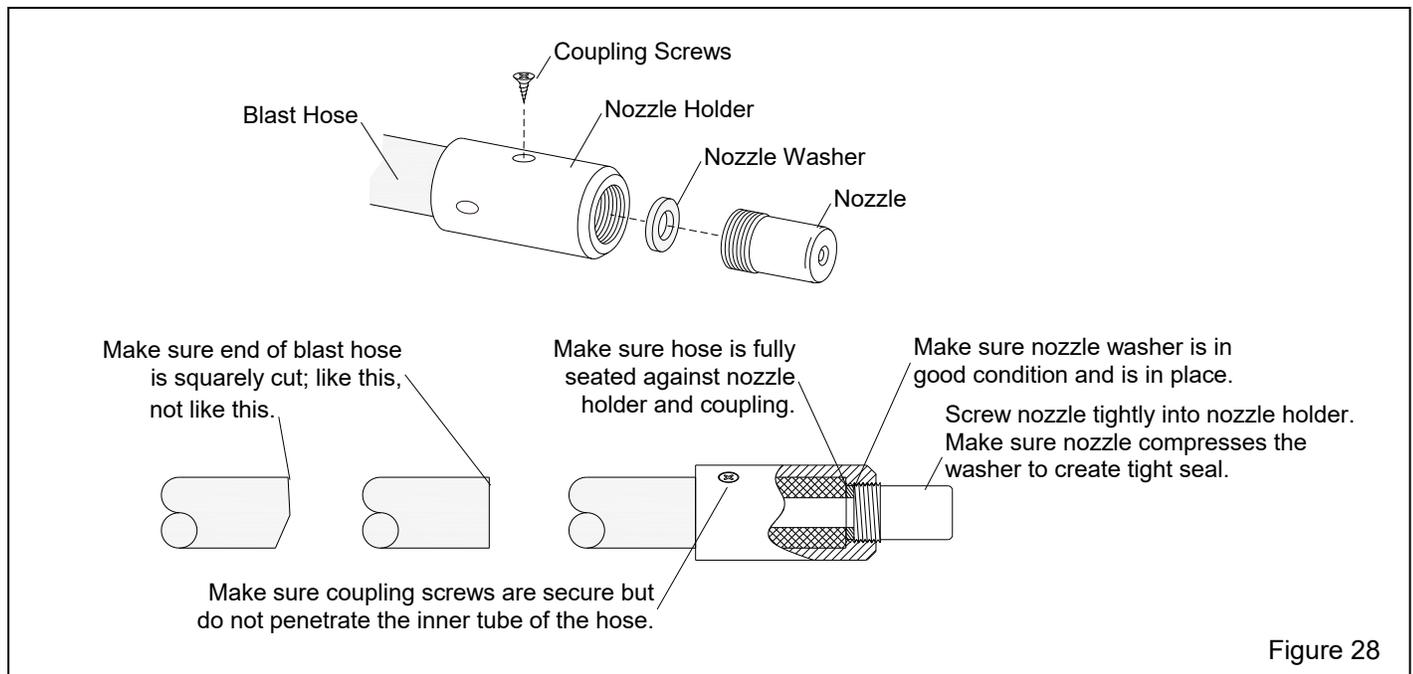

Figure 28
## 7.2 Blast Hose and Nozzle – Figure 28
**7.2.2** When replacing blast hose, make sure the hose is square cut and that it is fully inserted into the nozzle holder and coupling until it sits tightly against the shoulder in the holder and coupling, as shown in Figure 28. Make sure correctly sized screws are used to secure the nozzle holder and blast-hose coupling. Screws should not penetrate the inside of the blast hose.